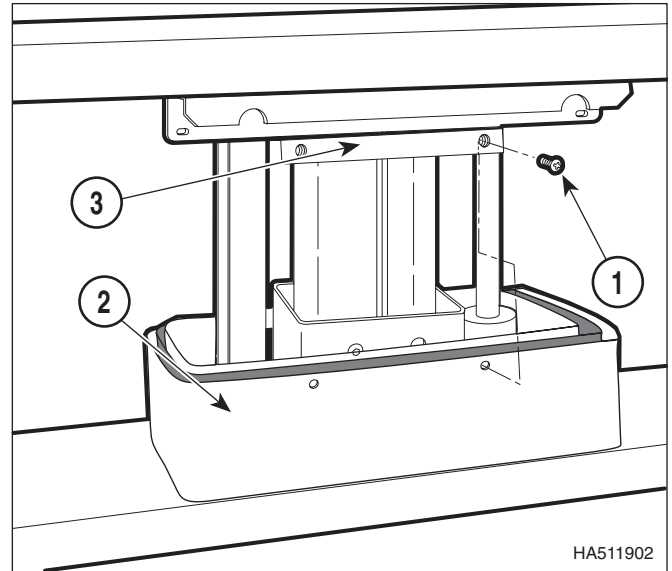

Figure 4-3.2 Lower Bellows For Access
- (1) Remove four screws (1, Figure 4-3.2) and lower top column cover (2) from litter frame (3).